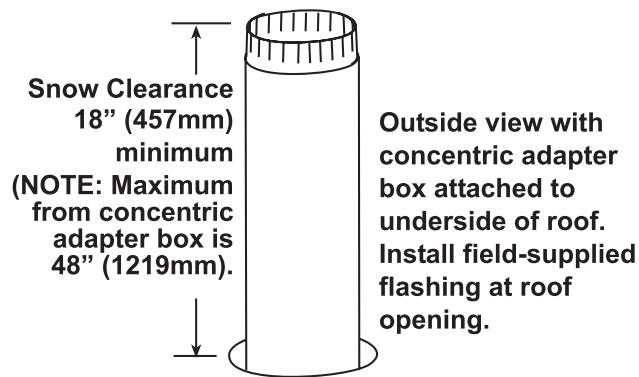

Figure 16. Combustion Air Pipe Through Roof
- a. Insert combustion air pipe through roof as shown in **Figure 16**.